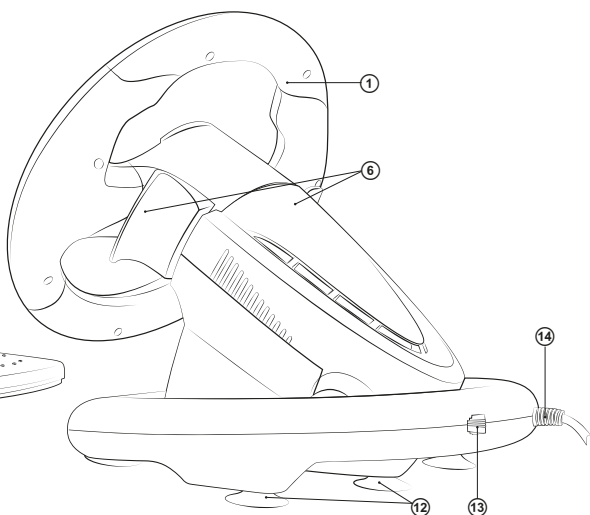

Fig. 4. Back view
• Connect pedal unit to the device (Fig. 4) via cable of the pedal unit to RJ-11 jack ③, then connect USB cable ④ of the device to the USB port of the computer.